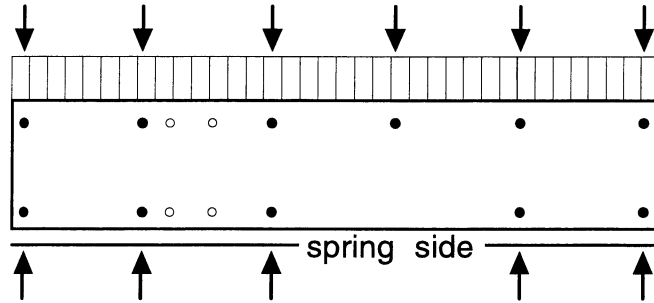

Figure 18 - Spacer Locations
2. Place the spacers on the mounting posts of the new keyboard assembly as shown in figure 18: